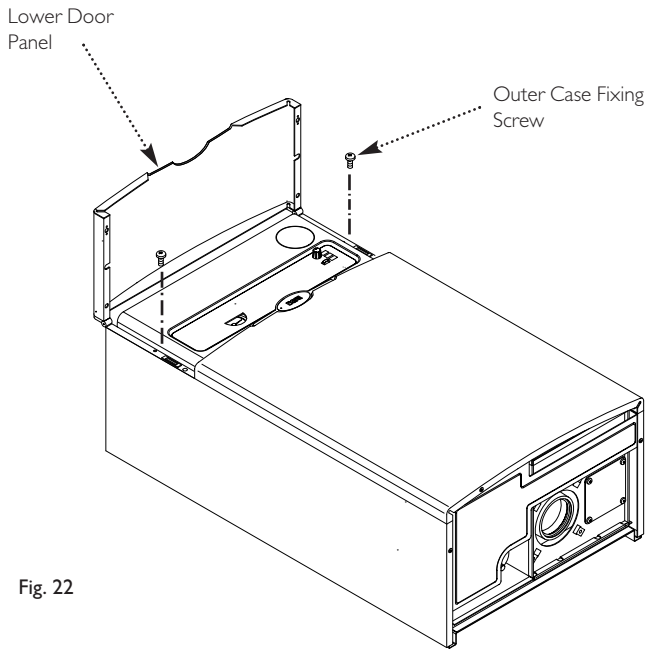
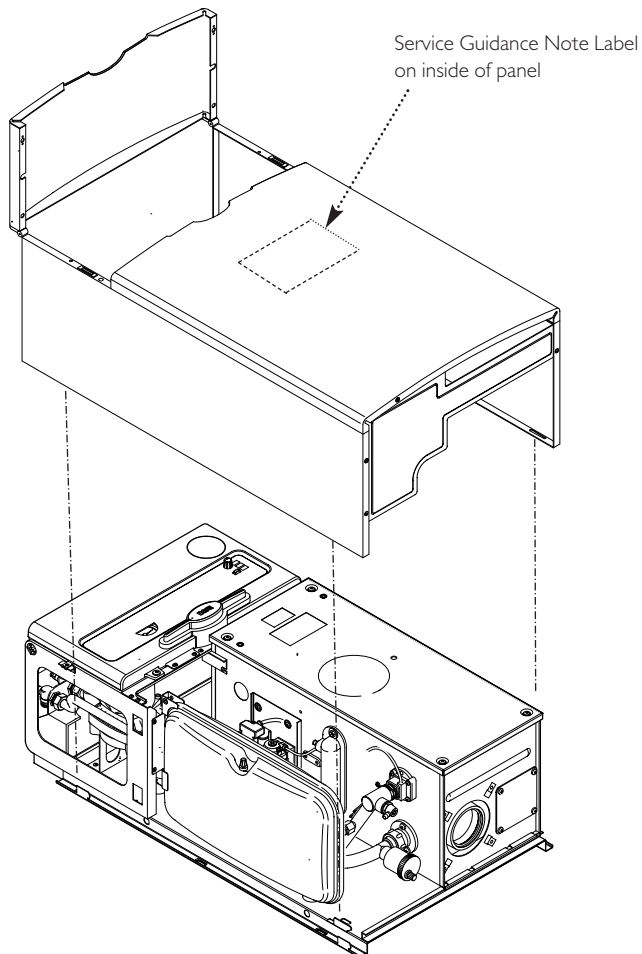

Fig. 22
Fig. 23
2. Hinge up the lower door panel (Fig. 22).
3. Remove the outer case fixing screws (Fig. 22). Slide the outercase upwards to disengage the hooks on the backplate and remove (Fig. 23).
**NOTE:** Service Guidance Note Label is fitted to the inside of the outercase (Fig. 23).